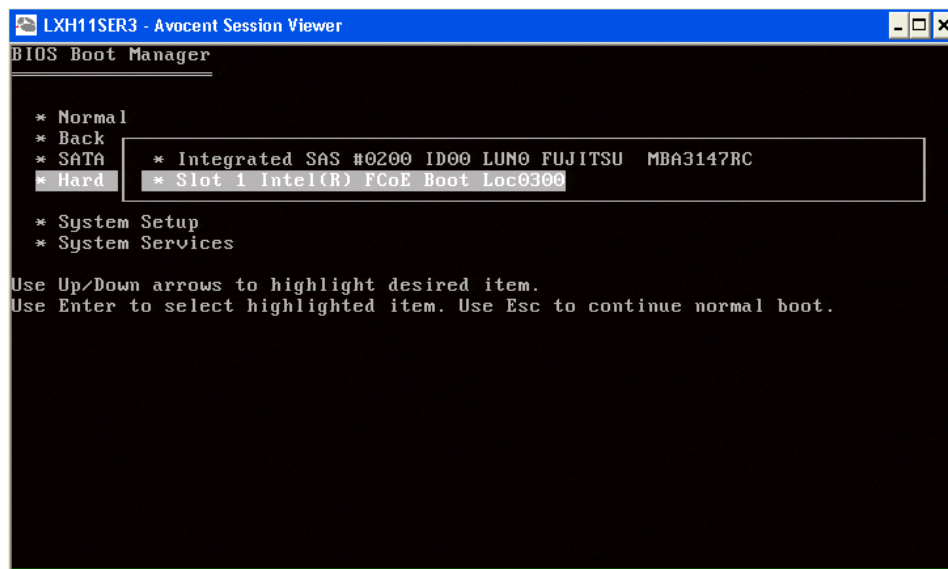

Figure 48 Booting from the remote device
6. After adding the FCoE disks, you can complete the installation. After rebooting, boot from the related remote drive, as shown in Figure 48.